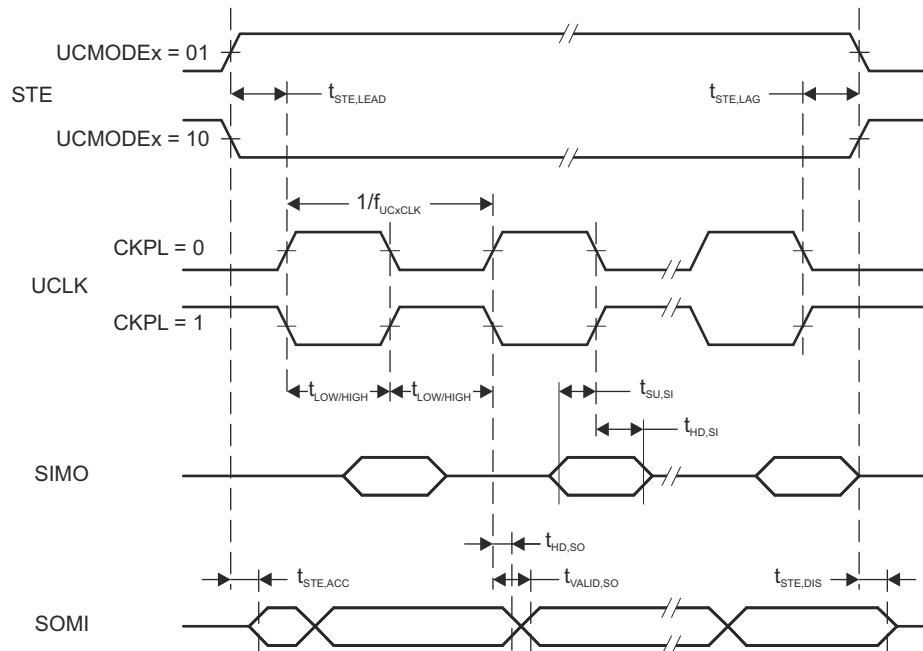
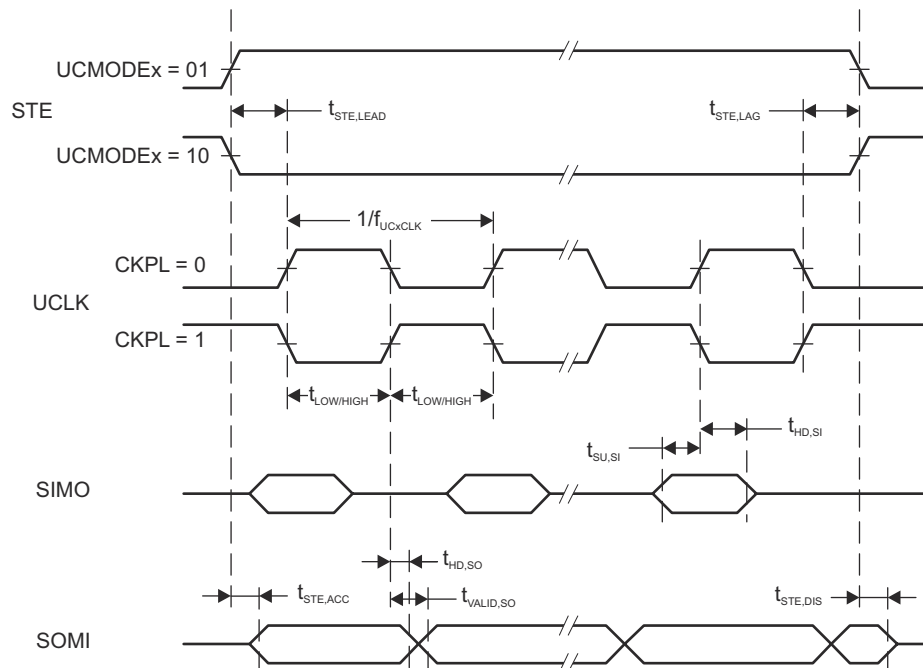

Figure 8-15. SPI Slave Mode, CKPH = 0
Figure 8-16. SPI Slave Mode, CKPH = 1
- (2) Specifies the time to drive the next valid data to the SOMI output after the output changing UCLK clock edge. See the timing diagrams in Figure 8-15 and Figure 8-16.
- (3) Specifies how long data on the SOMI output is valid after the output changing UCLK clock edge. See the timing diagrams in Figure 8-15 and Figure 8-16.